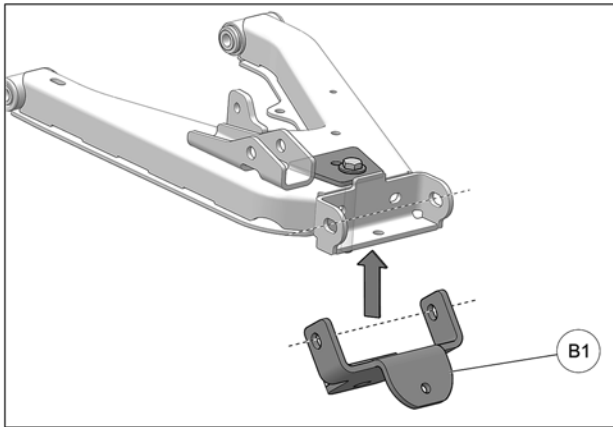

Fig. 5
5. Position anchor bracket (B1) under lower suspension arm. Align holes in anchor bracket and suspension arm. See Fig. 5